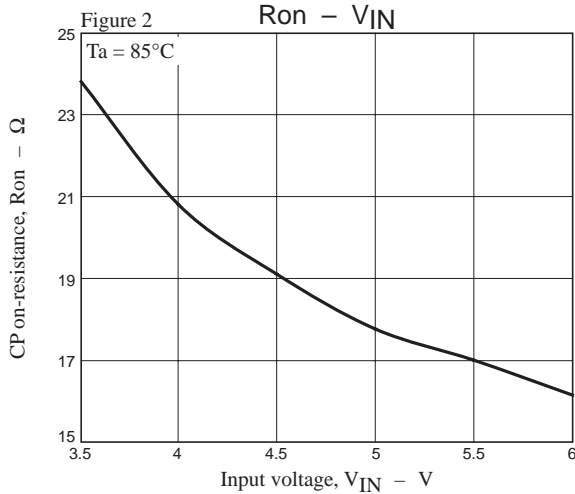

Figure 2 : Charge Pump Block Impedance - Input Voltage Characteristics ( $T_a = 85^\circ\text{C}$ ) : Assumed Worst Case ( $C_1, C_2 = 1\mu\text{F}$ )
Next, consider figure 2, which shows the relationship between the input voltage  $V_{IN}$  and the charge pump block impedance  $R_{on}$  at  $T_a = 85^\circ\text{C}$ , which is the maximum temperature for which operation is guaranteed. At  $T_a = 85^\circ\text{C}$ , if  $\Delta V_{reg} [\text{min}] = 0.3\text{V}$  (inferred worst case value), the LV5254's maximum output current can be expressed as equation (4).
The current capacity shown in figure 3 can be determined from the characteristics in figure 2 when  $V_{OUT}$  is set to be  $-3\text{V}$ .